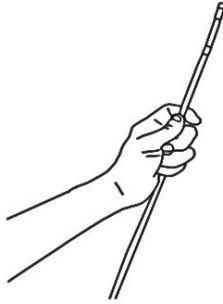

Figure 7-4
- 1) Observe whether the outer material of the entire insertion tube is intact ( as shown in Figure 7-4) .